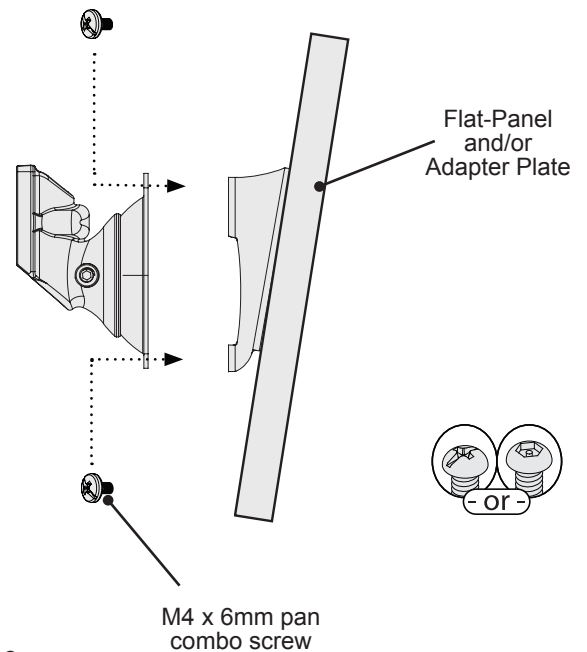

Figure 2
Use four (4) M4 x 6mm pan combo screws to attach the VPM attachment head to the fixed tilt adapters (Figure 2).